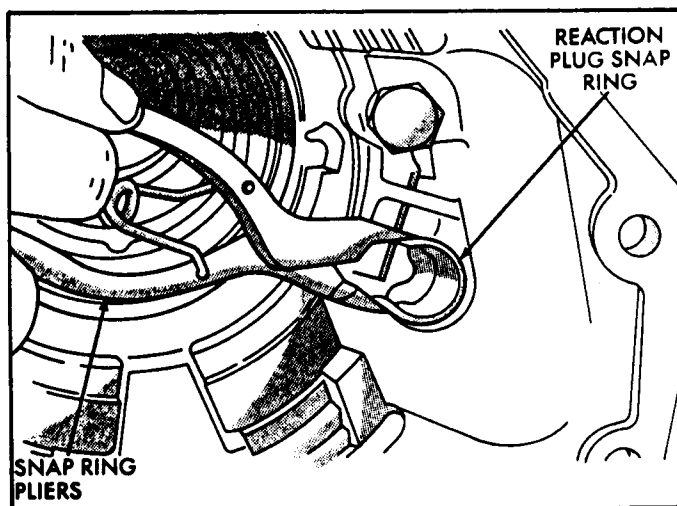

Figure 23
36. Install the reaction plug snap ring as shown in Figure 23, and compress snap ring only enough for installation. Do not distort snap ring.